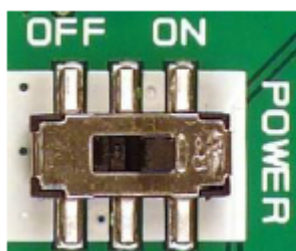

Figure 3. Positions for Switch P501 and P502
9. Switch P501 (main power switch) to the ON position, as shown in Figure 3.
7. Switch P501 (main power switch) to the ON position. See Figure 3.